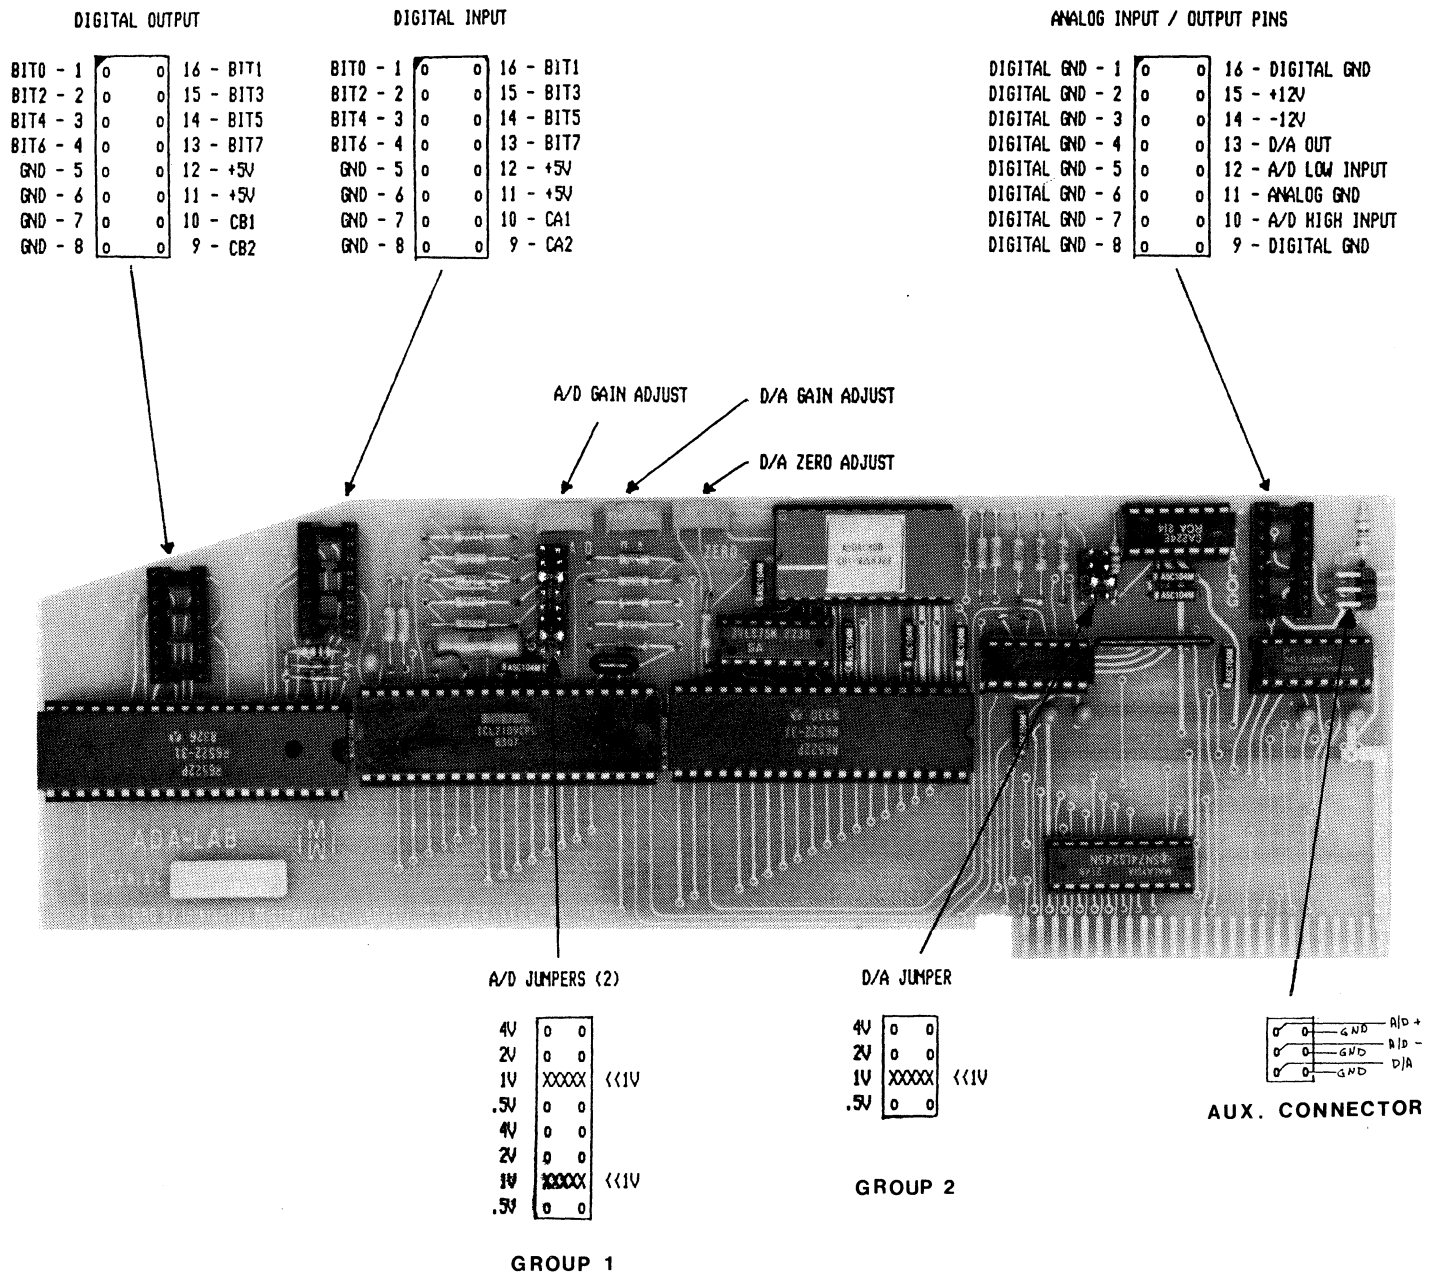
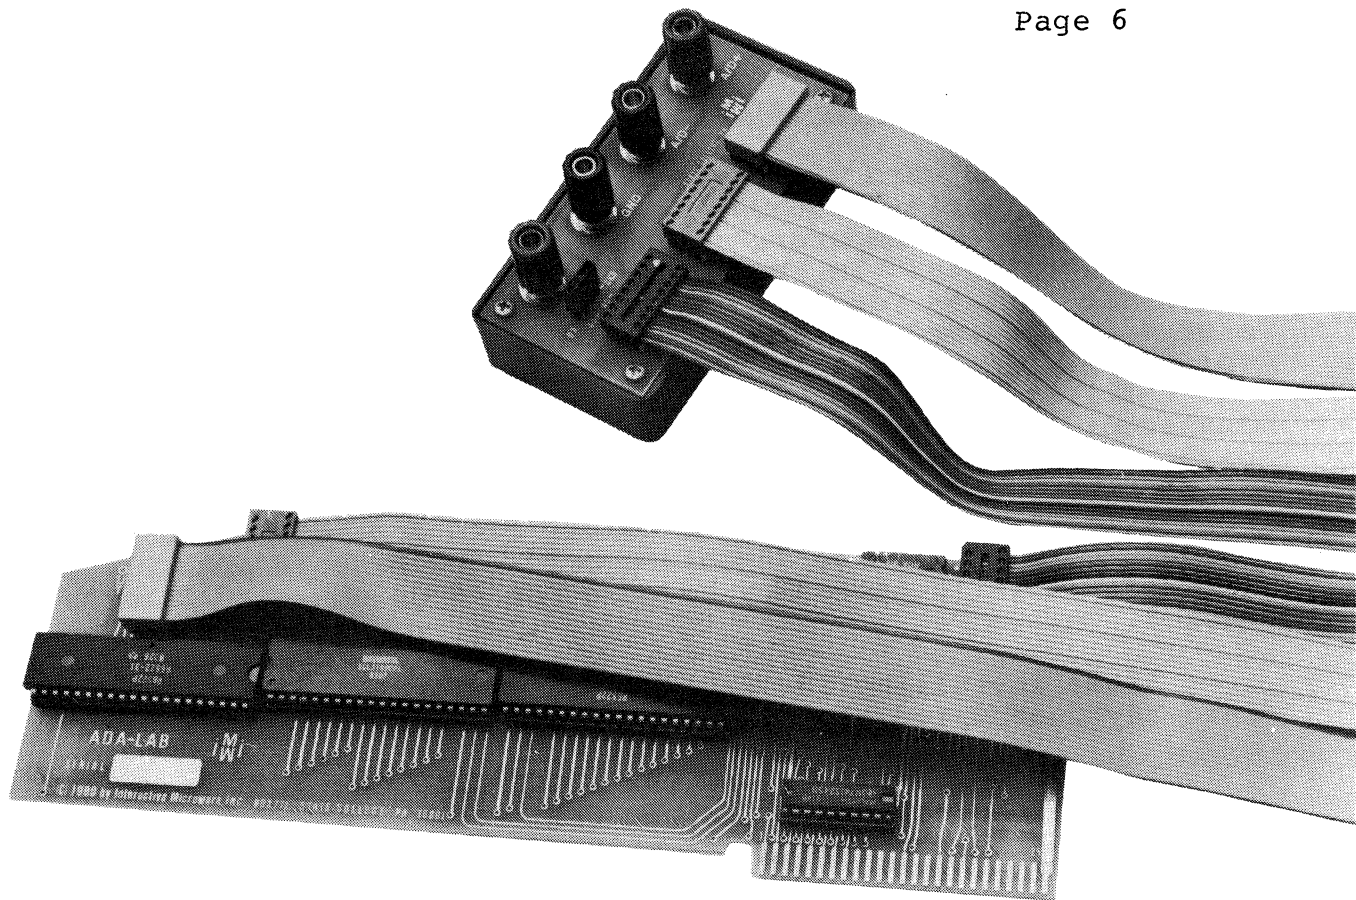

FIGURE 1. The ADALAB Interface Card.
FIGURE 2. Attaching the Cables to ADALAB.
Looking at the ADALAB card on the component side with the gold edge connector at the bottom right, you will see two groups of metal pins on the upper half of the card (see Figure 1). Group 1 consists of 2 vertical columns of 8 pins near the center of the board; Group 2 consists of 2 vertical columns of 4 pins. On some of these pins, you will see black plastic jumpers, which connect pairs of pins together. As shipped, the jumpers are set for the  $\pm 1V$  range.
The second group of pins, running vertically on the right (see Figure 1) selects the voltage range for the D/A converter. As was the case for GROUP 1, the voltage range decreases from  $\pm 4V$  (top pair) to  $\pm 0.5V$  (bottom pair) as you move the single jumper downward.
Looking at the ADALAB interface card or referring to Figure 1, you will note that there are three empty 16-pin sockets which are used for attaching the ribbon cables. The Digital (or Parallel) Output socket (labelled OUT) is at the upper left corner, the Digital Input socket (labelled IN) is directly to the right of it, and the Analog Input/Output socket (labelled ANALOG) is at the upper right corner of the ADALAB card. The signals on each pin of these sockets are summarized in Figure 1 and in Table I and II. Pin 1 is in the upper left corner of each socket. It is IMPORTANT to connect the cables in such a way that pin 1 of the cable plug (the pin marked with a white dot) is inserted in the upper left corner of the socket (the corner that is marked white.) Since the plugs on the two ends of the cable are opposite in orientation, it is possible to plug in the cables so that they extend either to the left or to the right. As shown in Figure 2, you should plug in the end of the cable that makes the cable extend to the right (toward the back of the computer.)
(see Figure 2)
If calibration is shown to be necessary through QUICKSAMPLE self-testing or after changing the voltage range jumper options, it is necessary to recalibrate the D/A and A/D converters. Take a look at Figure 1 and notice that there are 3 plastic potentiometers labelled A/D, D/A and ZERO, at the top near the center of the ADALAB board. Remove the cover of your Apple computer and find these potentiometers on the ADALAB card; note that the adjustment screws face upward so that you can adjust
1. The first step of the calibration procedure involves adjusting the zero offset of the D/A converter. Therefore, enter 0 as the OUTPUT VOLTAGE and press RETURN. The screen will display a histogram showing the deviations of successive A/D values from the initial A/D value. During the calibration procedure, you should ignore everything except the value labelled V1 at the bottom of the screen; this is the current A/D value. Adjust the ZERO pot (nearest to the back of the computer, see Figure 1) to yield a value  $V1=0$ . Then, press RETURN to return to the QUICKSAMPLE menu.
2. Next, we shall calibrate the D/A full scale voltage. Select option 8 (STABILITY TEST) again and enter 2047 as the OUTPUT VOLTAGE. The voltage reading on your voltmeter should now measure close to the maximum voltage that you have selected by means of the D/A jumper. To adjust the maximum D/A voltage, use a small screwdriver to turn the screw on the middle potentiometer (see Figure 1) marked D/A. Turning the screw clockwise decreases the voltage. For example, if the D/A range jumper is set for  $\pm 1$  Volt, turn the D/A pot until your voltmeter reads 1.000 Volt.
3. After you have adjusted the D/A converter voltage, you should adjust the range of the A/D converter. This is done by turning the screw on the potentiometer marked A/D, which is closest to the front of the computer (see Figure 1). The A/D converter reading ( $V1=$ ) is printed on the screen, and you should turn the screw until  $V1=2045$  (slightly less than the maximum value of 2047). Turning the screw clockwise decreases the value of V1. If
The following section describes some of the many ways to connect external signals to ADALAB. Consult Figure 1 and Tables I and II for information about which signals are on which pins of the cables and connectors. Pin 1 is generally denoted by a white dot or a 1.
For analog signals, a special 6-pin connector is available on the edge of the ADALAB card closest to the back of the computer. The signal appearing on each of these six pins is indicated in Figure 1. Shielded cables that mate with these pins are available from IMI.